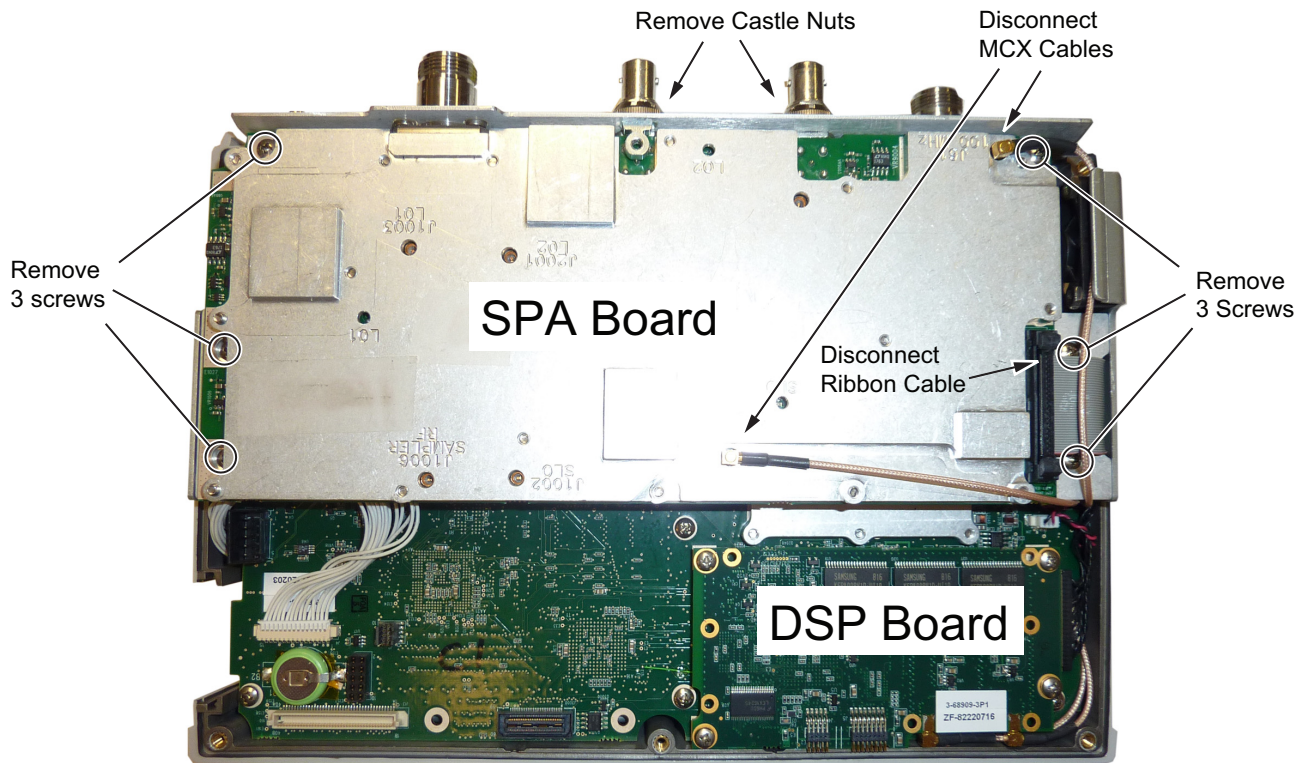

Figure 6-5. Removing the SPA Assembly
3. Remove the castle nuts from the External Reference connector and the External Trigger connector (Figure 6-5).
The MCX cable attached to SPA connector J61 (100 MHz) is shown passing above the SPA PCB ribbon cable. It must be routed under the ribbon cable, not as shown in Figure 6-5.